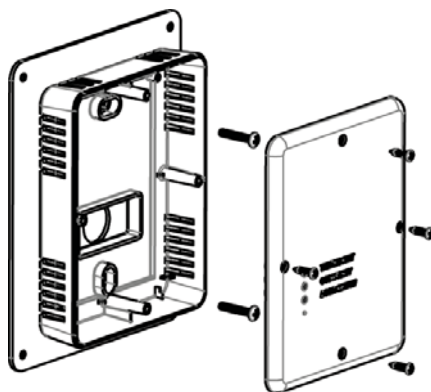

Figure 4 .
7. Re-attach the R2500 front cover (see Fig. 4).